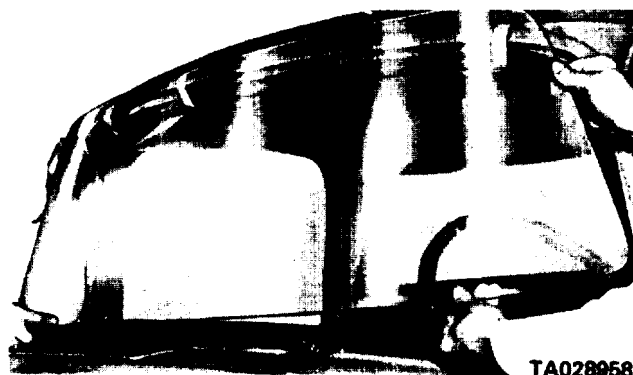

Figure 8.1. Windshield Removal.
a. Removal. Refer to figure 8-1.